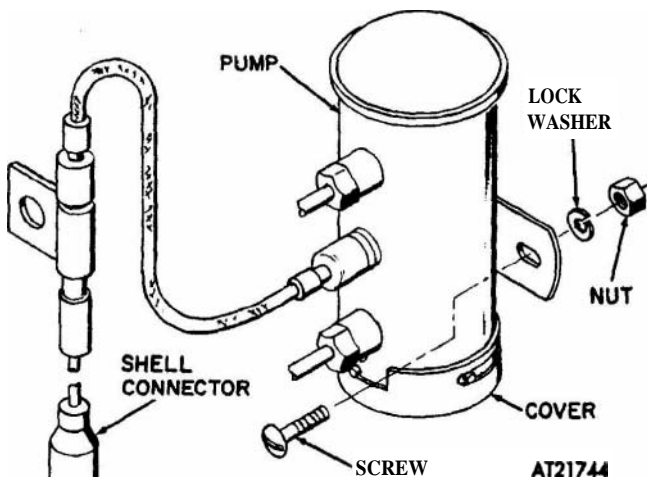

Figure 2-92. M792 ambulance carrier heater fuel pump.
(1) Open and secure engine cover (refer to TM 9-2320-242-10).
(2) Place a suitable container under heater fuel pump (fig 2-92).
(3) Disconnect inlet and outlet tubes from fuel pump by loosening nuts on tube fittings. Cap all openings.
(1) Remove fuel pump bottom cover, cover gasket, magnet, and filter element by twisting bottom cover off pump cover (fig 2-92).